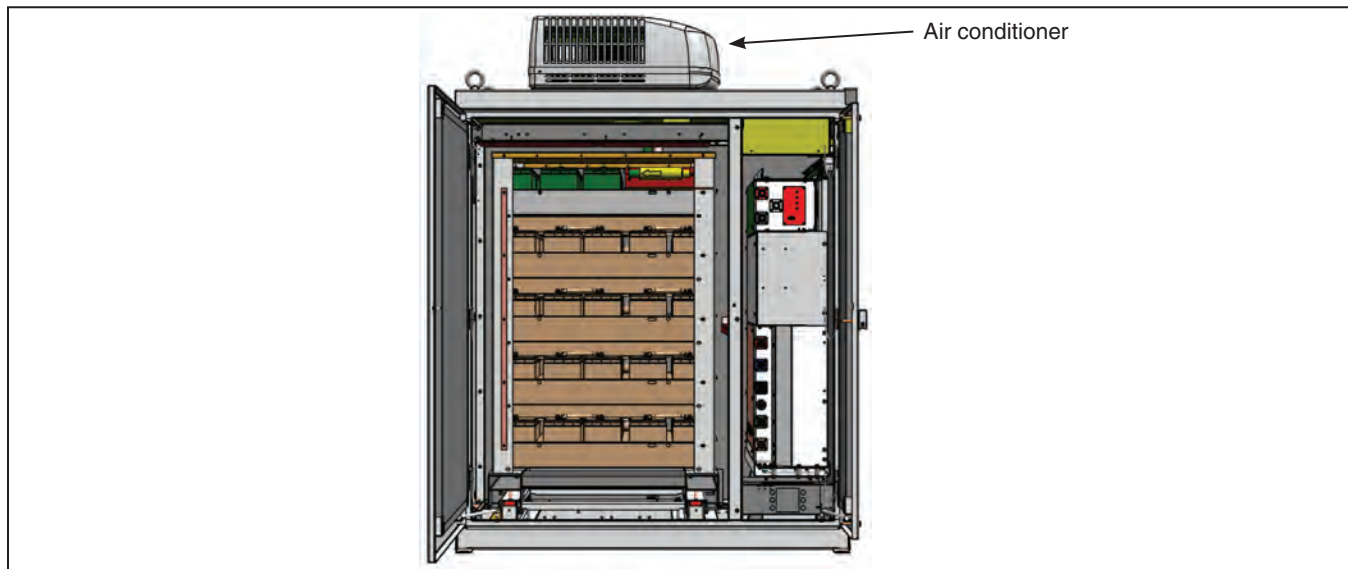

Figure 24. Location of an air conditioner on top of the battery bay.
- Inspect the air conditioners at the top of the battery bay. Clean any debris or obstructions that can restrict air flow. See Figure 24 for the location of the air conditioners.